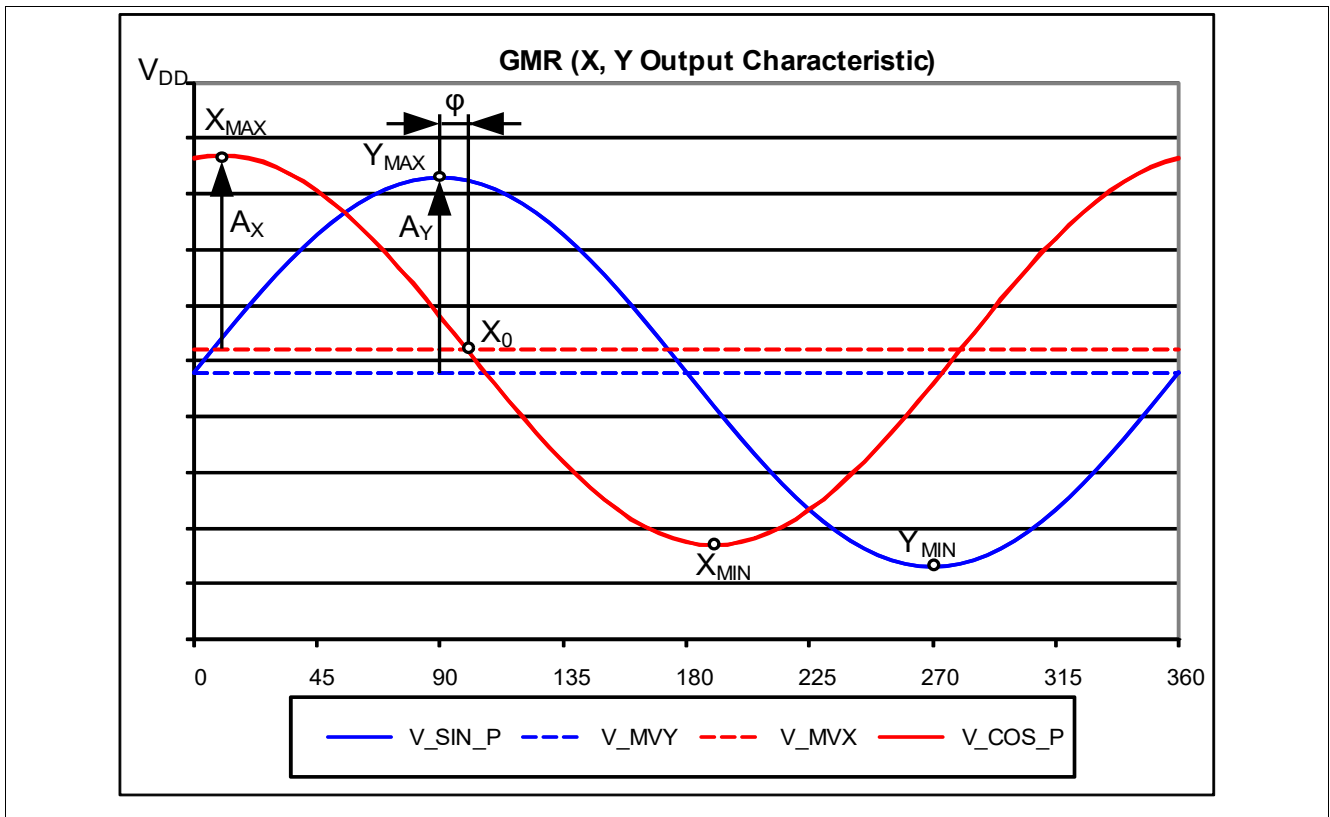
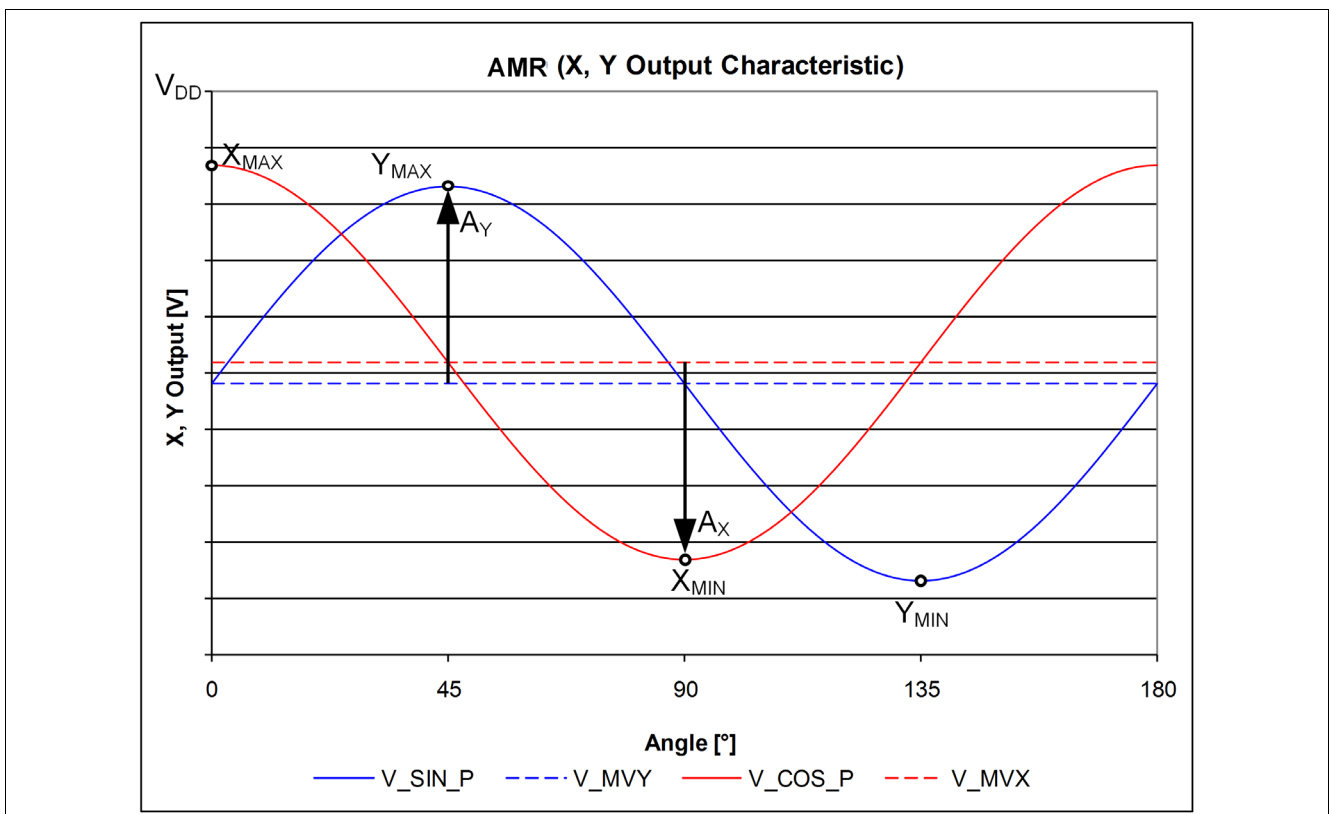
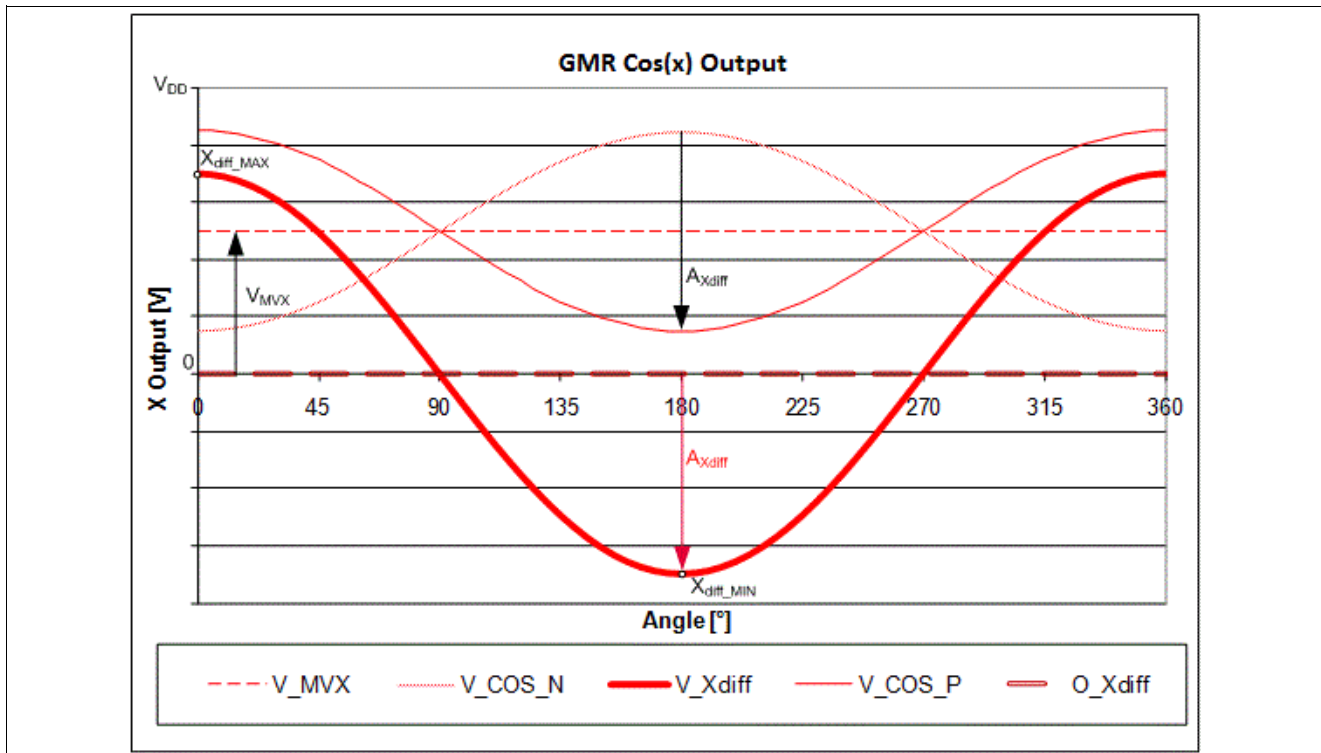

Figure 17 GMR sensor single-ended output signals
Figure 18 AMR sensor single-ended output signals
Figure 19 GMR differential output of ideal cosine
All parameters apply over the full operating range, unless otherwise specified. The parameters in **Table 9** refer to single pin output and **Table 10** to differential output. For variable names please refer to **Figure 17 “GMR sensor single-ended output signals” on Page 20** and **Figure 19 “GMR differential output of ideal cosine” on Page 21**.
1) V_{max} and V_{min} correspond to the voltage levels at X_{max} or Y_{max} and X_{min} or Y_{min} respectively as shown in **Figure 17**, **Figure 18**.